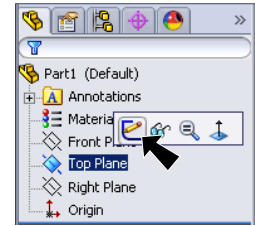

Fig. 1
- Step 2. Click **Top Plane**  in the Feature Manager and click **Sketch**  from the Content toolbar, **Fig. 1**.
- Step 3. Click **Circle**  (S) on the Sketch toolbar.